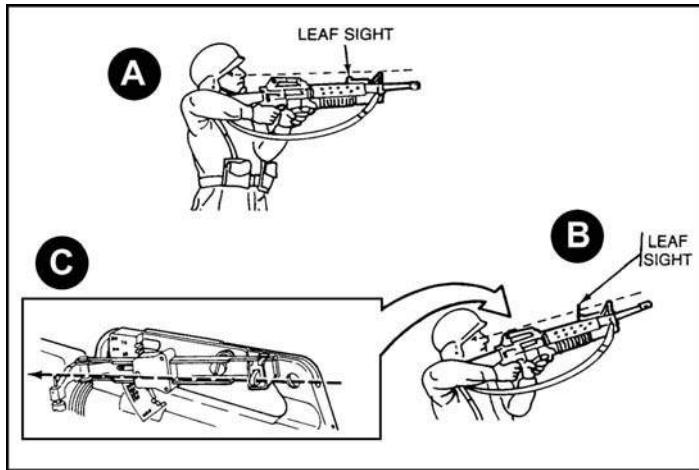

Figure 071-311-2130-2. Firing techniques
- a. For short-range targets at 50 meters or less, place the leaf sight down and use the rifle sights (A, figure 071-311-2130-2).